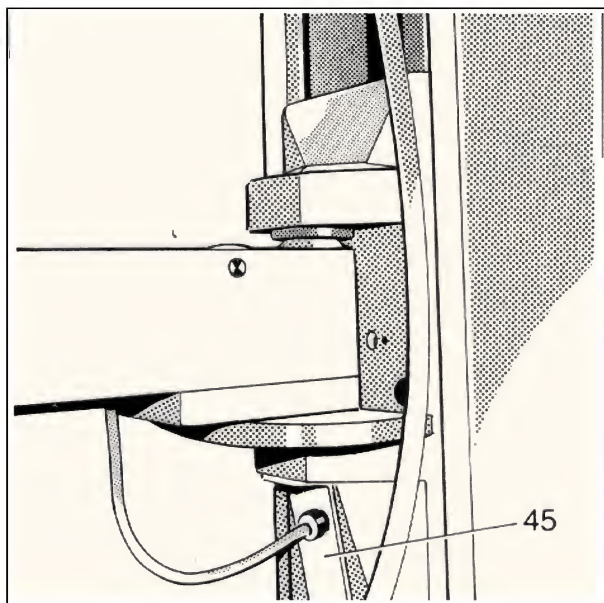
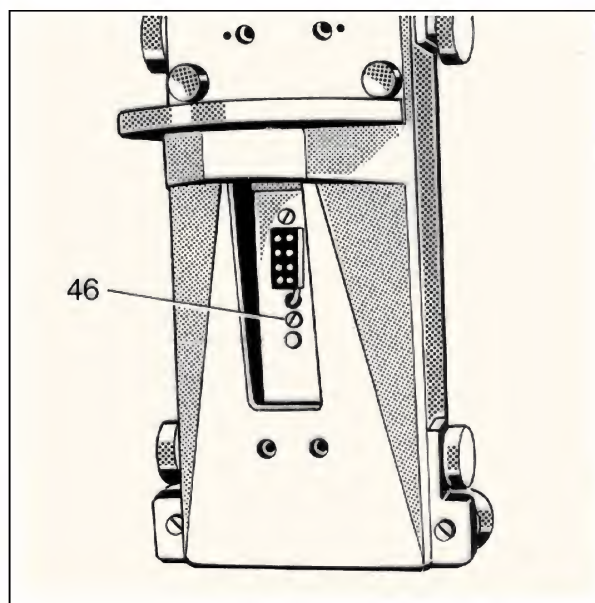

Fig. 31
Fig. 32
- \* Check function of vertical carriage brake (Fig. 32/item 47). Adjust if necessary. To do so remove cover (Fig. 31/item 45). Adjust brake at locked screw (Fig. 32/item 46). Install cover again.